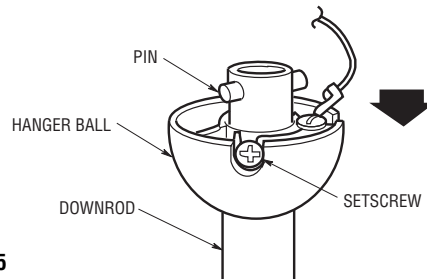

Figure 5
- 13. Obtain the hanger ball/downrod assembly and remove the hanger ball by loosening the setscrew in the hanger ball until the ball falls freely down the downrod (Figure 5). Remove the pin from the downrod, then remove the hanger ball. Retain the pin and hanger ball for reinstallation in Step 24.